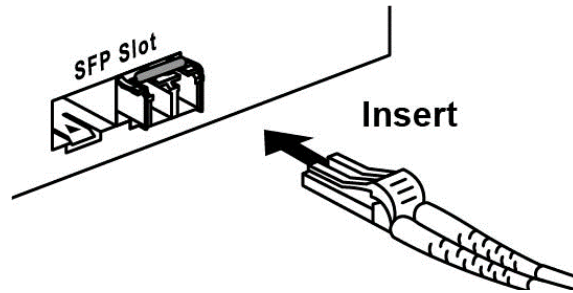

Figure 2.6 - LC Connector to the Transceiver
Step 2 - Insert the fiber cable of the LC connector into the transceiver as shown below in *Figure 2.6*.